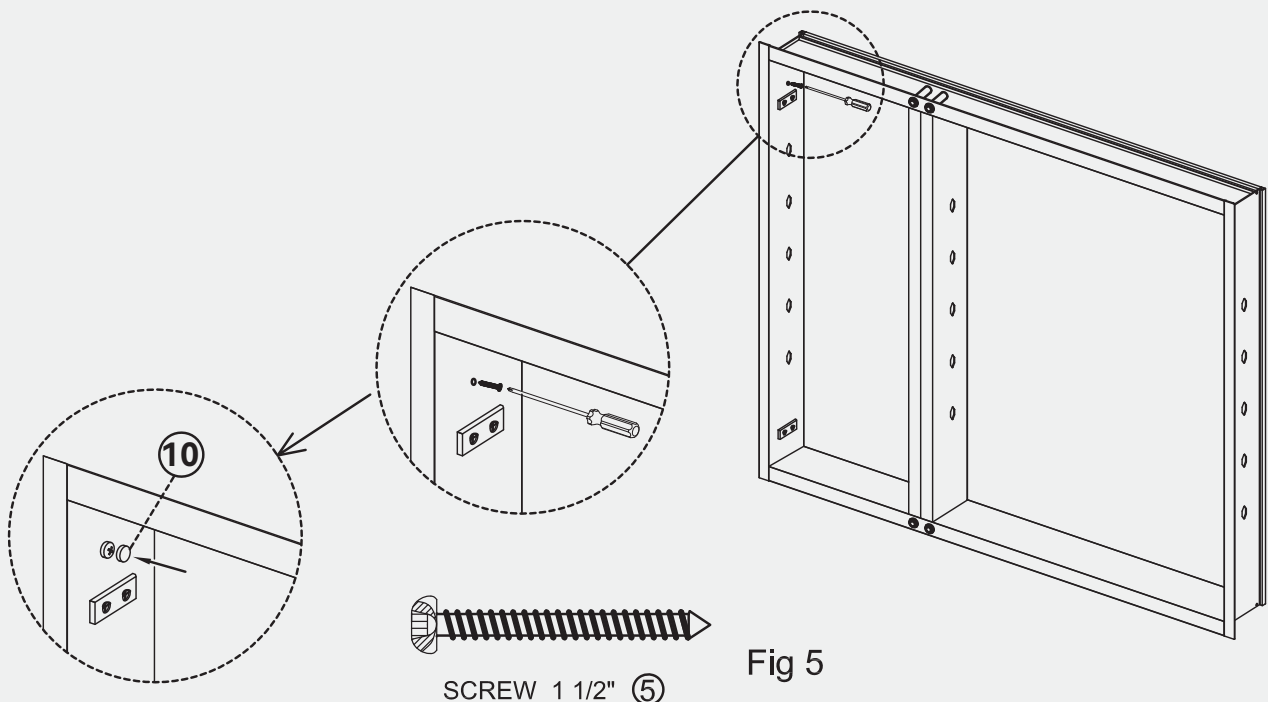

Fig 5
3. Insert four (4) #10 X 1 1/2" screws (5) into four locations provided for recessed installation (Fig 5). Be careful not to overtighten. Make sure cabinet is centered in rough opening. Cover screws with provided caps (10).